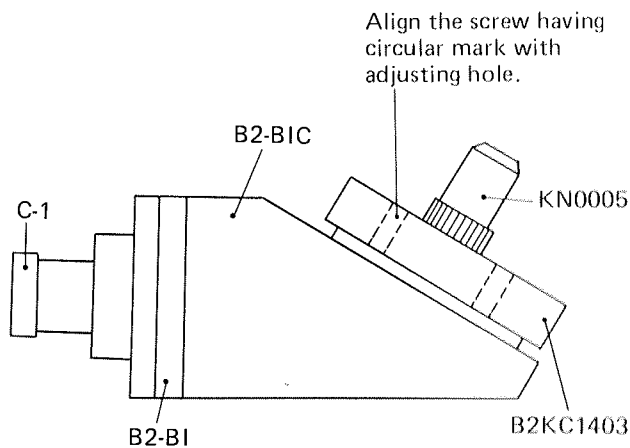
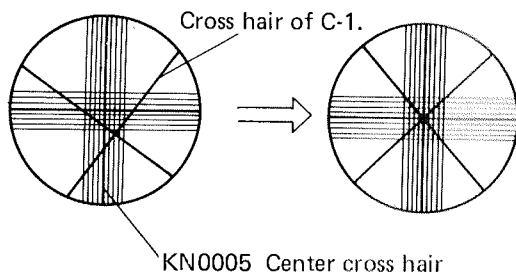

Fig. 11-13
Fig. 11-14
- a) Assemble the following Jigs and B2-BIC, B2-BI units as shown in Fig. 11-13:
(See Fig. 11-13)
(See Fig. 11-13 and Fig. 11-14)